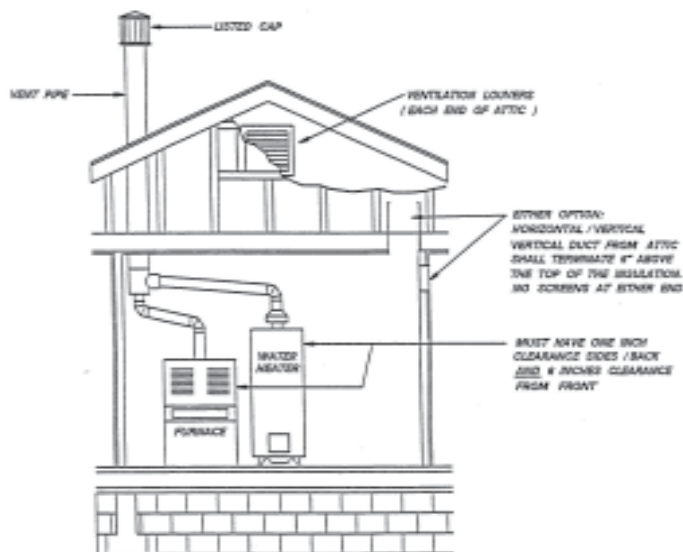

FIGURE 9
2. Horizontal (1-2,000). When communicating with the outdoors through horizontal ducts, each opening shall have a minimum free area of not less than 1 square inch per 2,000 Btu per hour of the total input rating of all equipment in the enclosure. (See Figure 9, Page 64).